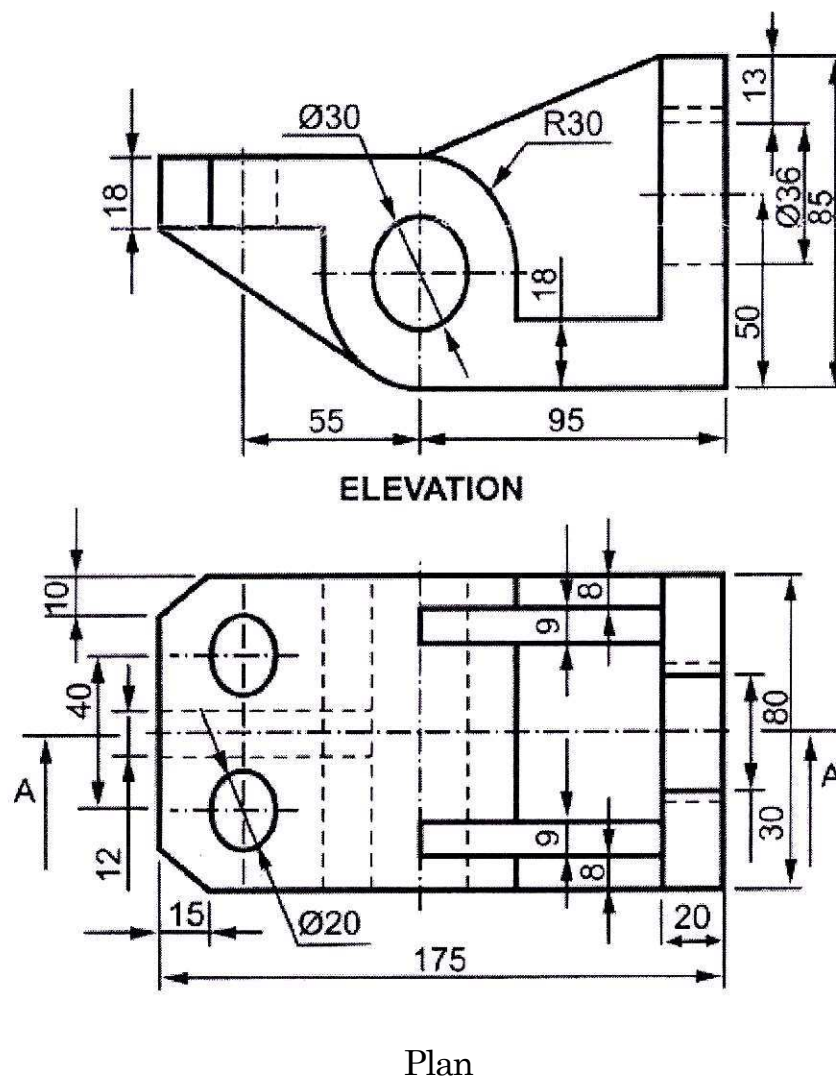

Fig. 7
9. The following Fig. 7 shows Elevation and plan of an object. Using same method of projection, draw the following views :